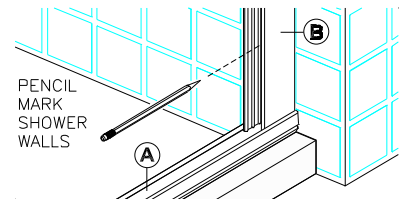
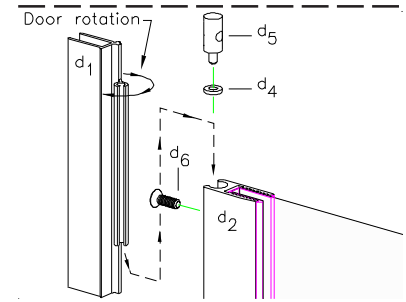
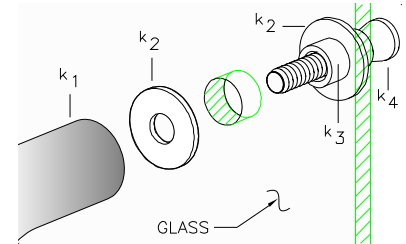

figure 2
figure 3
figure 4
3. Place Wall Jambs (B) on to ends of Sill (A) and up against shower walls as shown in figure 2. Plumb the Jambs, then pencil mark their installation holes locations on the shower walls (3 per jamb). Remove Wall Jambs. Use a 3/16" drill bit (designed to drill through material you are working with) to drill 1-1/4" deep installation holes in locations previously marked. Insert Plastic Screw Anchors (I) into holes.
4. Reposition Wall Jambs (B) as before and secure Jambs to walls using the six(6) 1-1/4" Installation Screws (H) provided (3 per jamb).
5. Decide from which side your Door Assembly (D) is to hinge (left or right, your choice). Install Glazing Vinyl (d7) onto hinge side of glass as shown in the exploded view. Begin glazing at top of glass edge and work down.
7. Insert the Hinge Post (d1) into the Hinge Stile (d2) as shown in figure 3. Take a minute to check the door rotation (*is it the correct rotation for your configuration?*)? If it is not, then make it so. When satisfied, proceed.
8. Insert Hinge Washer (d4) and Hinge Bushing (d5) into Hinge Stile (d2) as shown in figure 3. Rotate Hinge Post (d1) out of the way and secure the bushing with one(1) Door Assembly Screw (d6) as shown in figure. Repeat step for opposite end.
10. Insert Strike Post (C) into appropriate Wall Jamb. Measure from bottom of Strike Post (where it sits on Sill) to the bottom of the Door Strike (d9). Trim bottom Seal Vinyl (F) to a **3/4" more** than measurement obtained. Insert trimmed Seal Vinyl into Strike Post as indicated in exploded view, sheet - 1. Next insert Magnet (G) into Strike Post. Finally insert remaining Vinyl Seal (F) and trim top excess as required. Snip Seal Vinyl as shown on sheet - 1, Detail '1 - A'.
11. Adjust Door Assembly and Strike Post along curb as required. Note: Bottom of Door Assembly must always remain parallel to Sill in order for door to operate properly. When satisfied with door operation, secure Hinge Post and Strike Post to the Wall Jambs using 638PHPT Adjustment Screws (J), see exploded view - sheet 1.
12. If Jamb Caps (L) were purchased, install at both the hinge side and the strike side of the door as shown in exploded view - sheet 1. Trim the Jamb Caps to required lengths before installing.
13. Install C-pull Handles (K). Slip a Washer (k2) and Sleeve Bushing (k3) onto the C-pull Screw (k4) as shown in Figure 4. Insert it into the glass hole as shown and attach the outside C-pull Handle. Hand tighten the screw and repeat step for bottom portion. When done . . . carefully tighten down assembly with a screw driver. Take inside Handle (see explode view sheet 1) and insert it onto the C-pull Screw heads as shown. Finish C-pull Handle installation by tightening down the two set screws (k5).